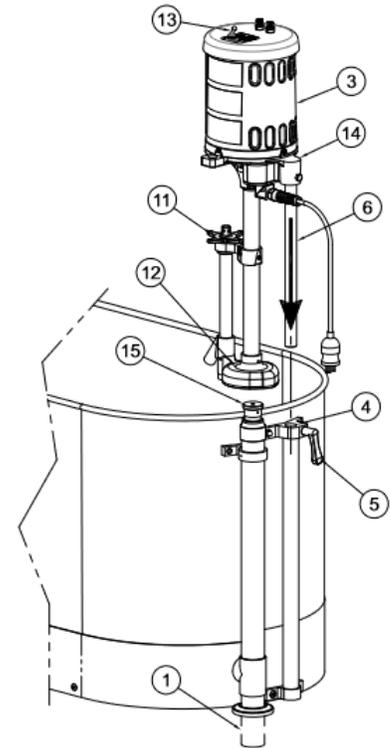

Figure 3: Installing the turbine on the tub. -S model with standard drain and overflow shown.
1. (Figure 3) Loosen handle (5) then lower turbine support rod (6) into turbine support tube. Tighten handle (5) when turbine is at desired height.